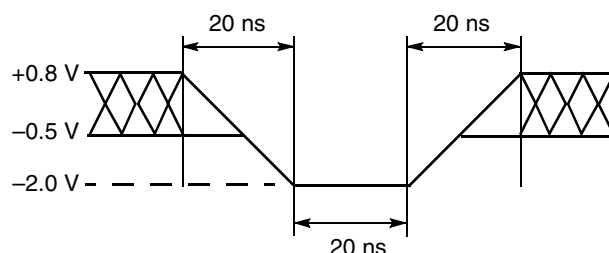
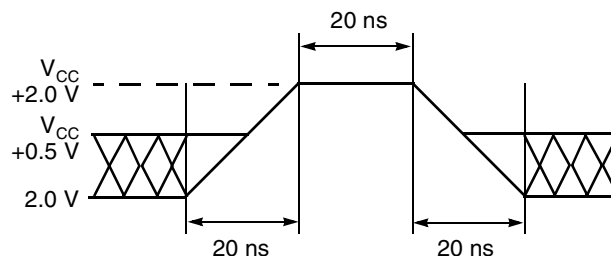

Figure 8. Maximum Negative Overshoot Waveform
Figure 9. Maximum Positive Overshoot Waveform
1. Minimum DC voltage on input or I/O pins is -0.5 V. During voltage transitions, input or I/O pins may overshoot V_{SS} to -2.0 V for periods of up to 20 ns. Maximum DC voltage on input or I/O pins is $V_{CC} + 0.5$ V. See Figure 8. During voltage transitions, input or I/O pins may overshoot to $V_{CC} + 2.0$ V for periods up to 20 ns. See Figure 9.
2. Minimum DC input voltage on pins A9, OE#, RESET#, and WP#/ACC is -0.5 V. During voltage transitions, A9, OE#, WP#/ACC, and RESET# may overshoot V_{SS} to -2.0 V for periods of up to 20 ns. See Figure 8. Maximum DC input voltage on pin A9 is +12.5 V which may overshoot to +14.0 V for periods up to 20 ns. Maximum DC input voltage on WP#/ACC is +9.5 V which may overshoot to +12.0 V for periods up to 20 ns.